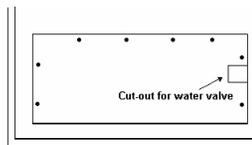

Figure 9
6. If the condenser coil is interior (see Figure 9), you will need to remove the screws that attach the access cover at the bottom of the unit. While cover is off look to see if you need to cut away the opening for the water inlet valve.